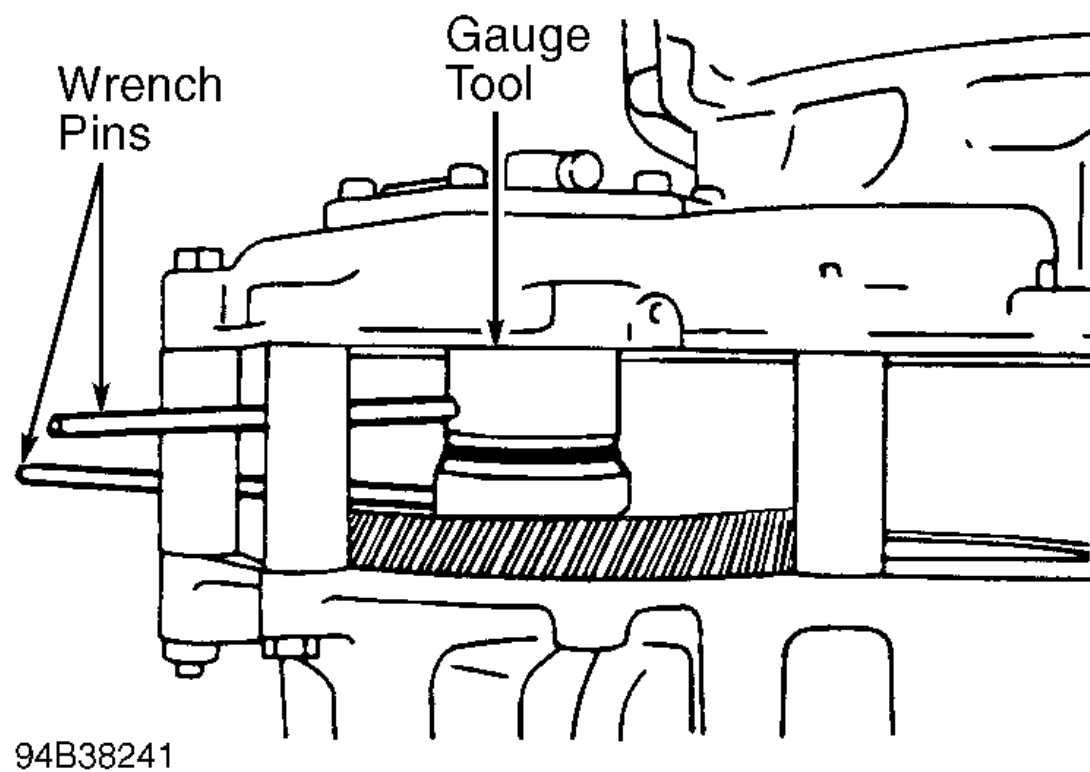

Fig. 25: Measuring Differential Bearing Preload
1. Install differential assembly into converter housing. Position differential side bearing race in recessed end of Gauge Tool (T87C-770002DJ). Place gauge tool on differential. See **Fig. 25**.
2. Ensure gauge tool is completely threaded together so that no gap is present. Position spacer collars and assemble case halves using supplied bolts and washers of tool set. See **Fig. 25**. Tighten bolts to 22-34 ft. lbs. (292D46 N.m).